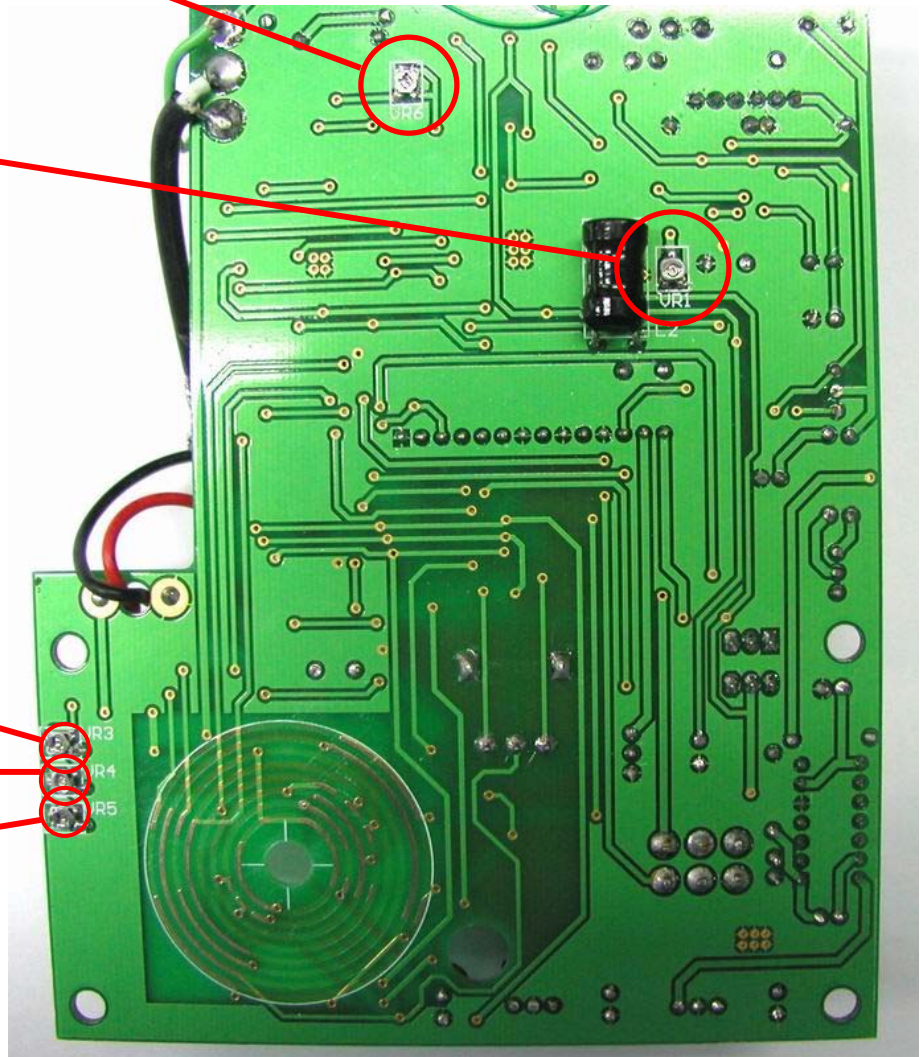

Figure 2
**ACV Adjustment (refer to Figure 2)**
**Frequency Adjustment (refer to Figure 2)**
**$\Omega$  Adjustment (refer to Figure 2)**